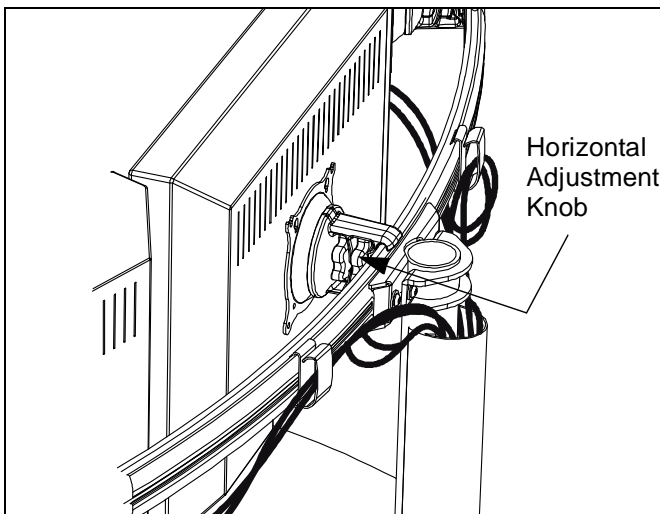

Figure 14: Display Horizontal Adjustment
1. Loosen Centris bracket rear adjustment knob (see Figure 14).